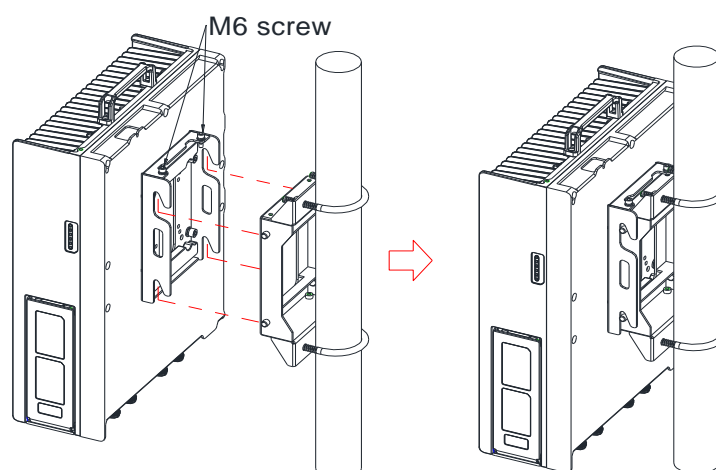
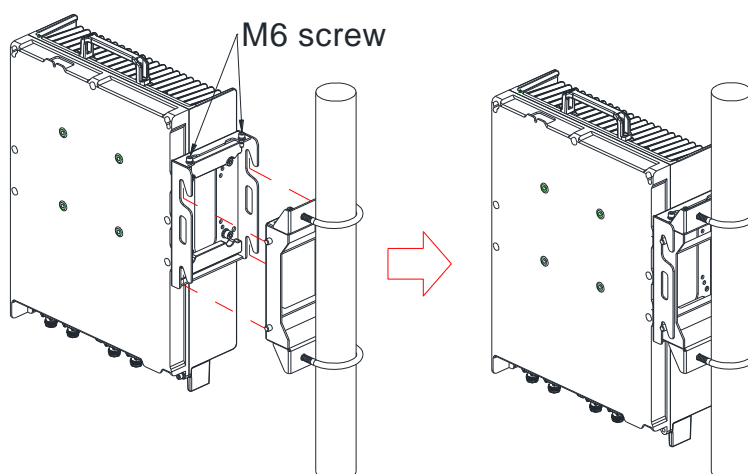

Figure 3.7-12 Fix RRU on Pole, Front Mount
Figure 3.7-13 Fix RRU on Pole, Blade Mount
Step 3: Lift the RRU and insert it into the slot of the mounting bracket from top to bottom, and fasten the M6 screws to fix the RRU. See Figure 3.7-12 and Figure 3.7-13.